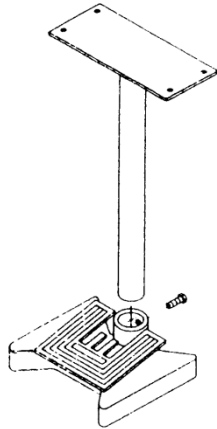

Figure 3. Insert standing tube
1. Insert standing tube into pedal base and connect with short screw. (Figure 3)